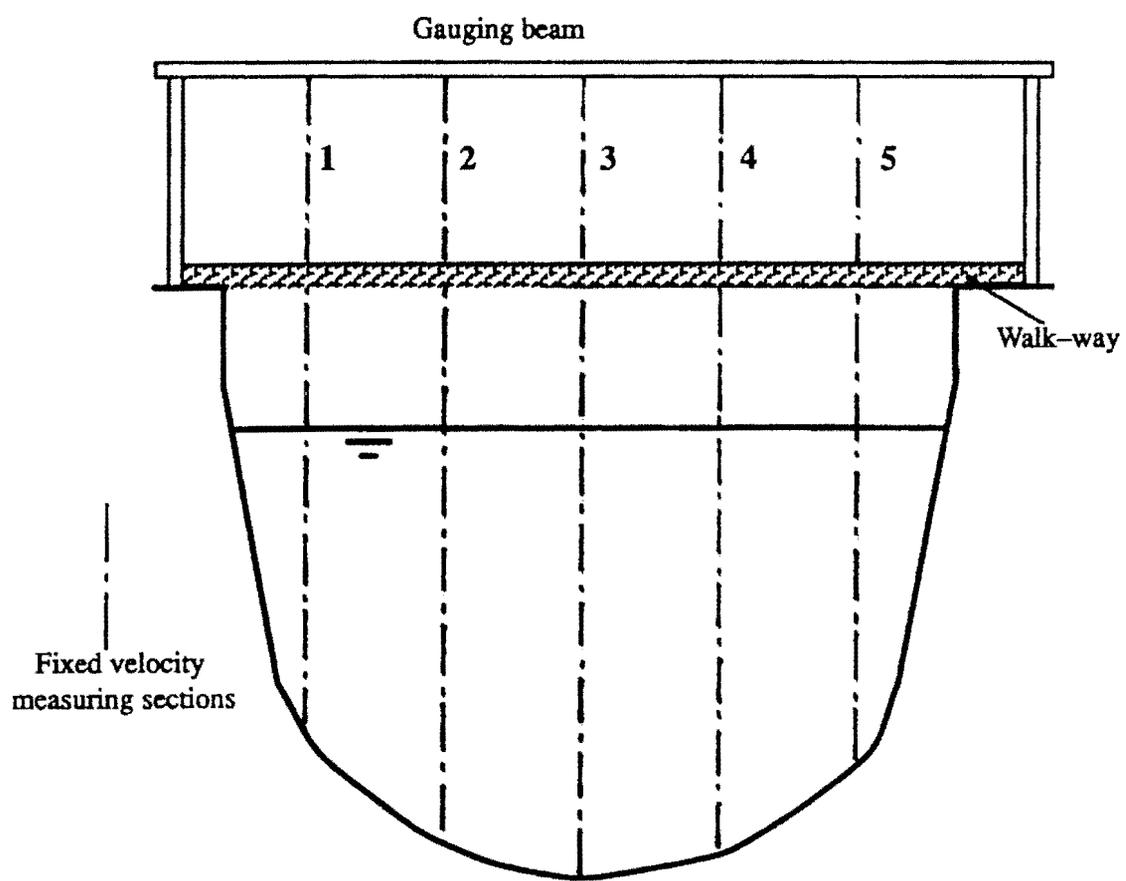

Figure 5 - Powells Creek Stormwater Channel
The stormwater channel at the gauging station is a concrete lined “U” shaped channel 2.5 metre deep by 3 metres wide. For purposes of application of the continuous gauging method, the cross section was arbitrarily divided into five (5) subsections as shown in Figure 5. Abustan (1998) found, when he applied the method to the Musgrave Avenue Stormwater Channel which is another gauging station operated by UNSW, that the number of subsections did not influence the stage-discharge relationship and, hence, the number of subsections should be selected on the basis of the cross section properties rather than a predefined number.